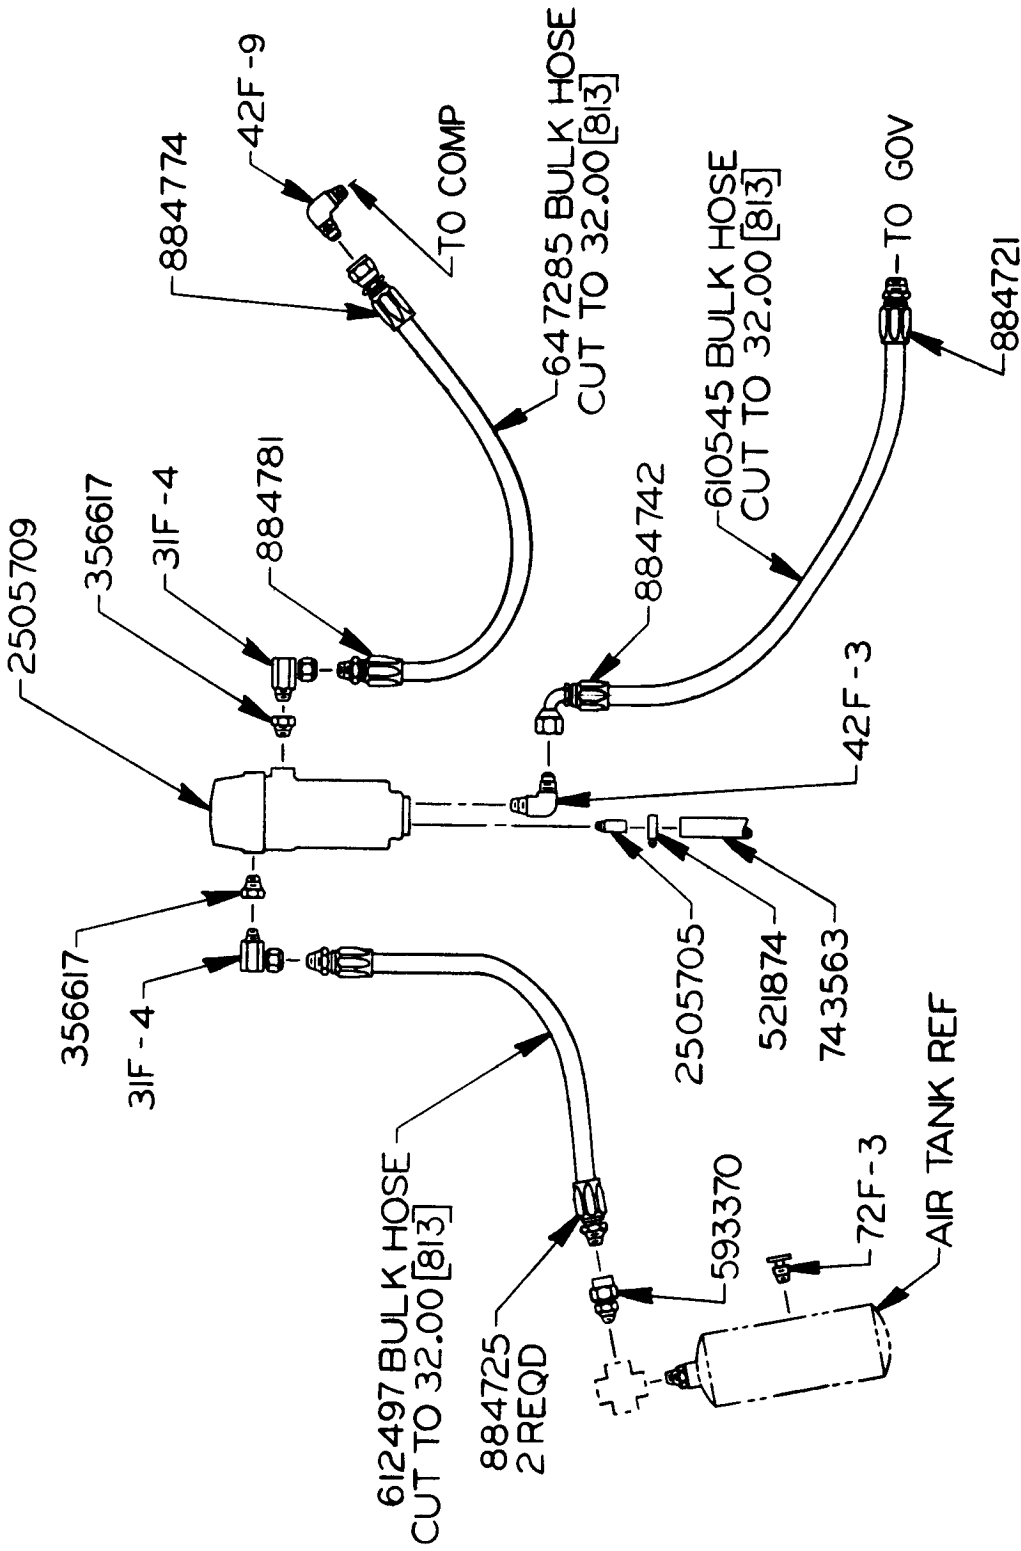
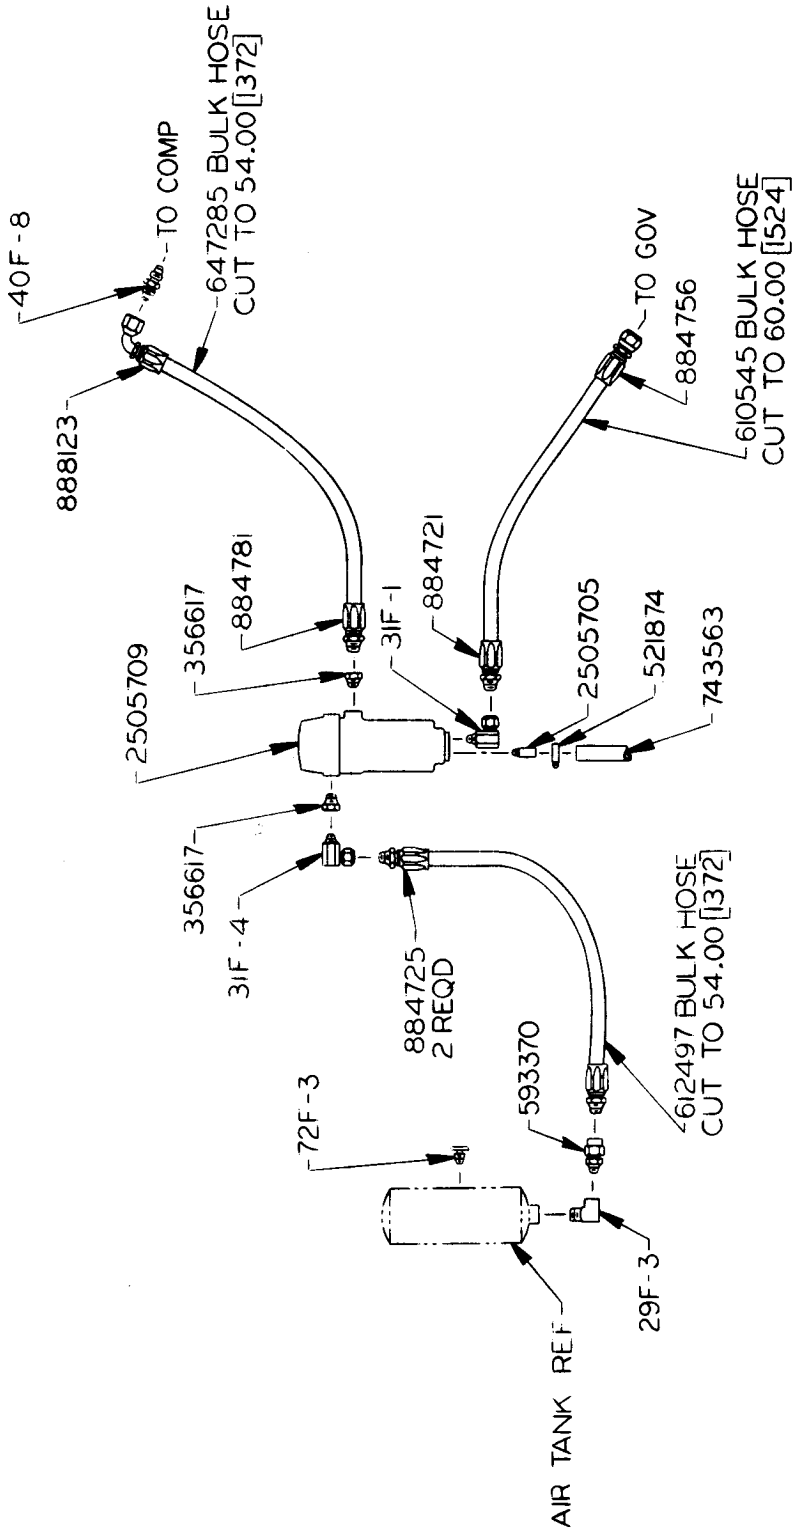
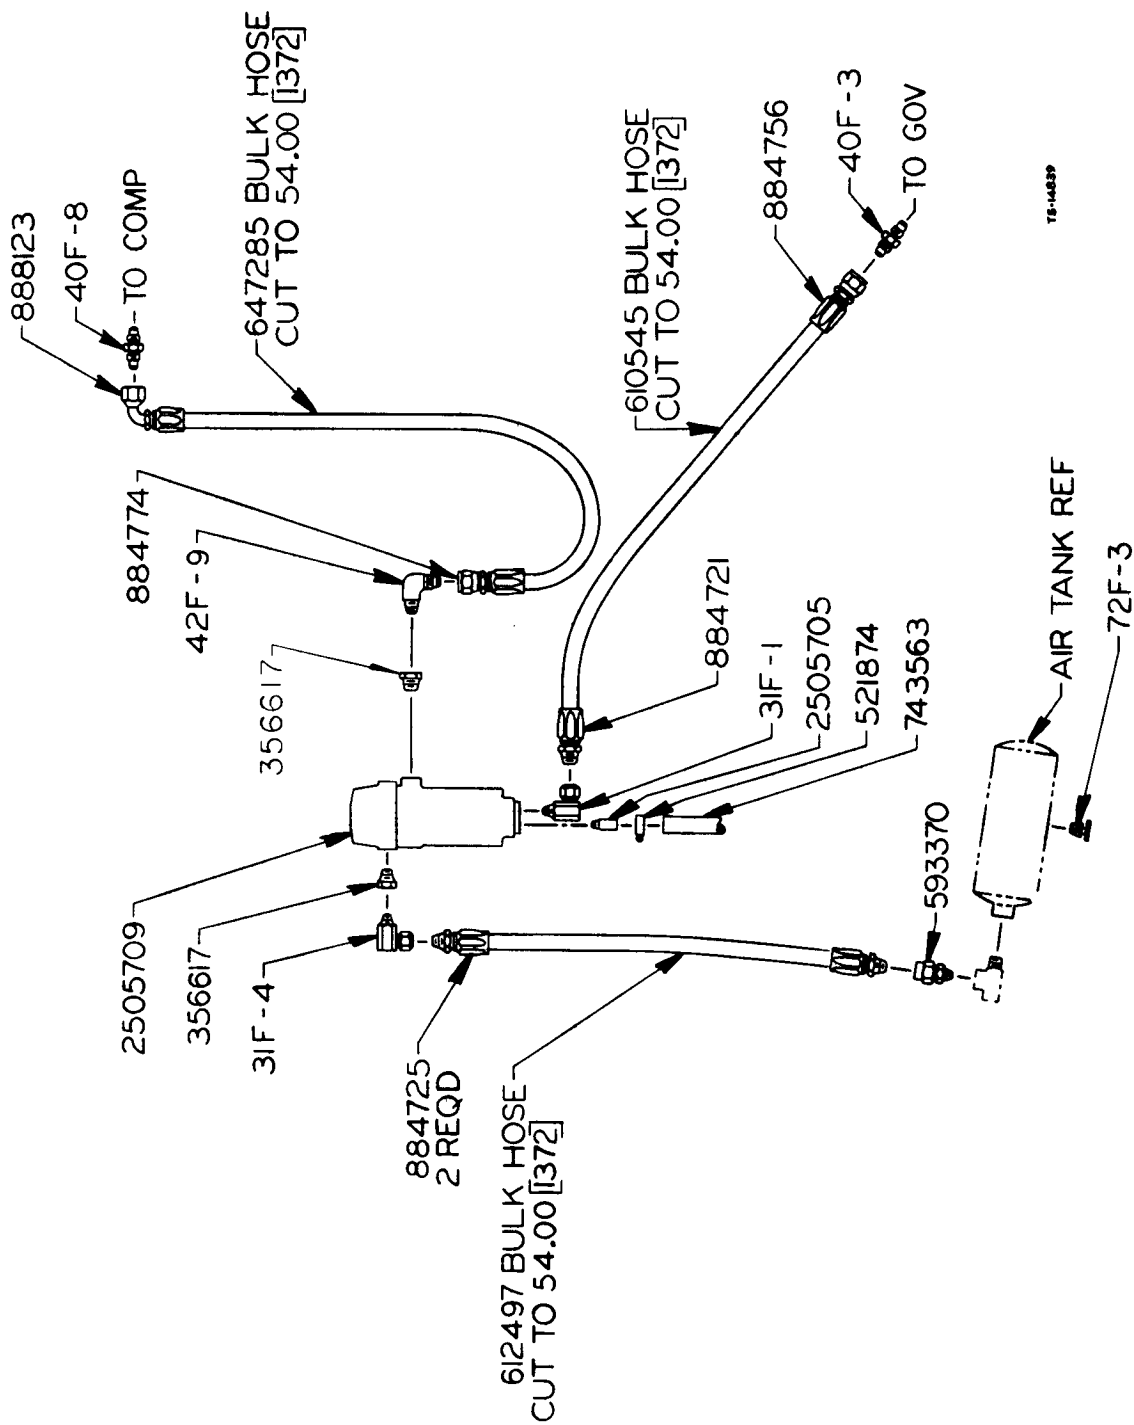

Figure 5 - Air Dryer Installation for Model 75B
Figure 6 - Air Dryer Installation for Model 125B
Figure 7 - Air Dryer Installation for Model 175B
2. Refer to appropriate installation drawing, Figure 3 for 45B, Figure 4 for 55B, Figure 5 for 75B, Figure 6 for 125B or Figure 7 for 175B, and install parts as shown.